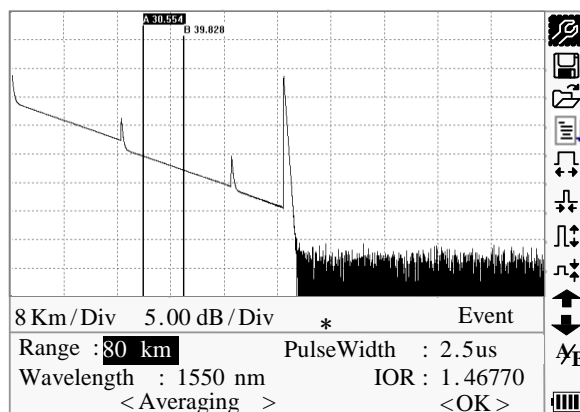

Figure 4-8. Real-time Testing
- Use [◀] and [▶] to toggle between the parameters to be changed (Figure 4-8), and the press [Enter].